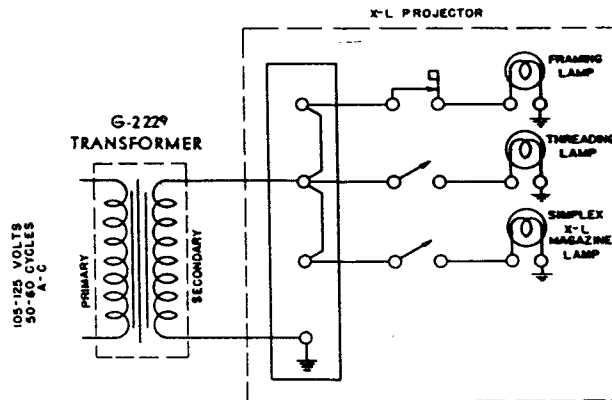

FIGURE 1-11
4. Transformer (See figure 1-11.)